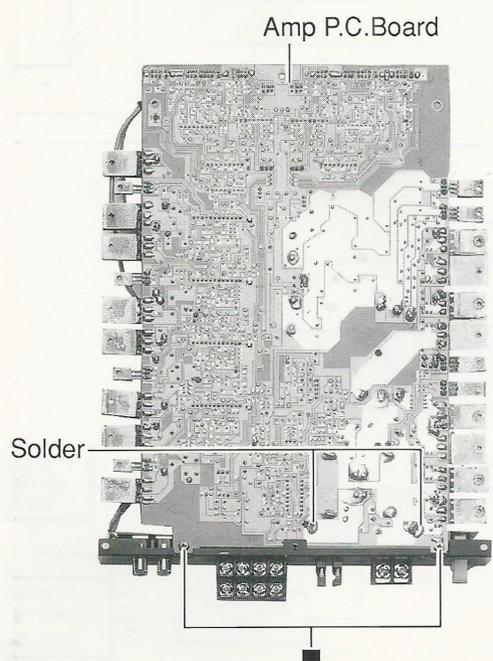

Figure 3
- (2) Remove two screws marked "■" and the solders located two placed as shown in Figure 3.